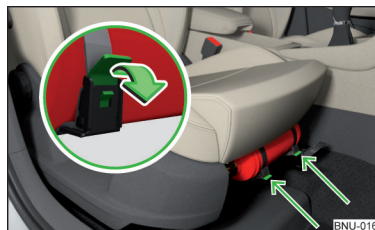

Fig. 316
- › To **remove** the fire extinguisher, release the safety catches on the two belts in the direction of arrow » Fig. 316 and remove the fire extinguisher.